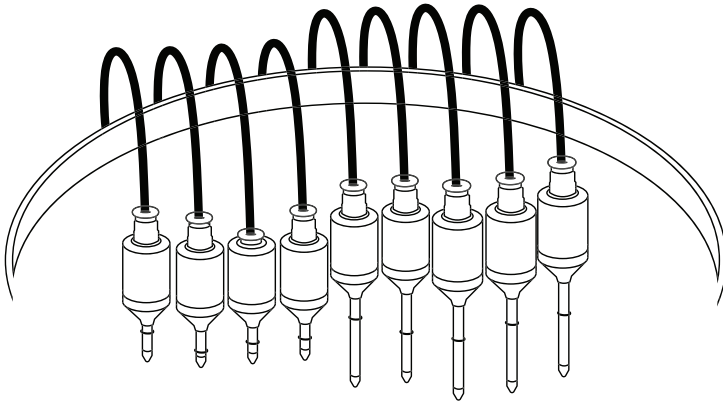

Figure 88 Determining air entry point
- Equipment to mount the shaft refilling adapters (Figure 88)